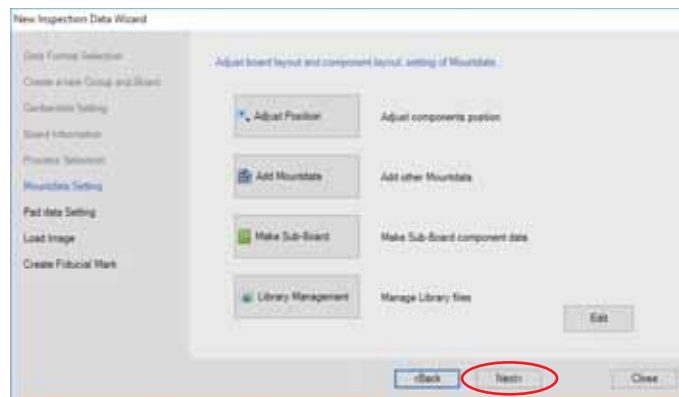

Figure 1-70 Adjusting Mount Data
Step1: Click **Adjust Position** on Figure 1-70 and dialog box shown below appears. Adjust the Mount data matching it to the Gerber data according to Table 1-15 of **Adjust Position**.